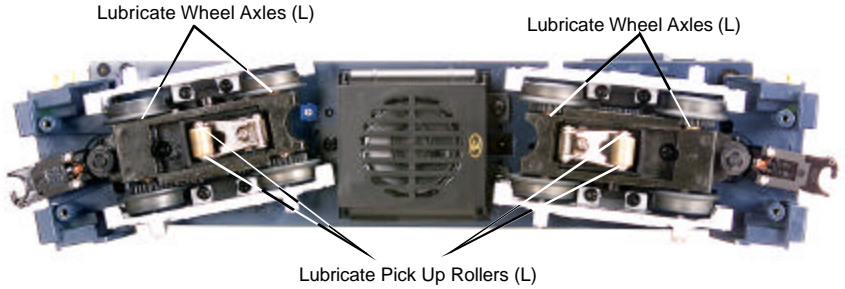
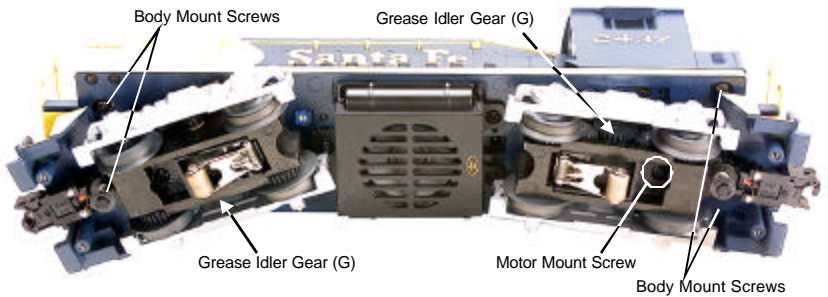

Figure 2. Lubrication Points on the Engine
Figure 3. Body Mount Screws and Greasing Points.
Although the engine was lubricated at the factory, it is important that you lubricate the chassis before operation. Lightly grease the outside idler and drive gears (marked “G” in Fig. 3 on pg. 10) to prevent them from squeaking. Use light household oil and follow the lubrication points marked “L” in Fig. 2 on pg. 10. Do not over-oil. Use only a drop or two on each pivot point.
You should regularly lubricate all outside idler gears and pickup rollers to prevent them from squeaking. Use light household oil and follow the lubrication points marked “L” in Fig. 2. Do not over oil. Use only a drop or two on each pivot point.
1. Remove the Phillips screws from the chassis, as seen in Figure 3 on pg. 10, then lift the body away from the chassis. Use caution when removing the body to make sure the handrails clear the cab housing so that the paint is not damaged
2. Remove the truck blocks from the chassis by unscrewing the black Phillips motor mount screw (labeled motor mount screw in Figure 3 on pg. 10) on the bottom of each truck block